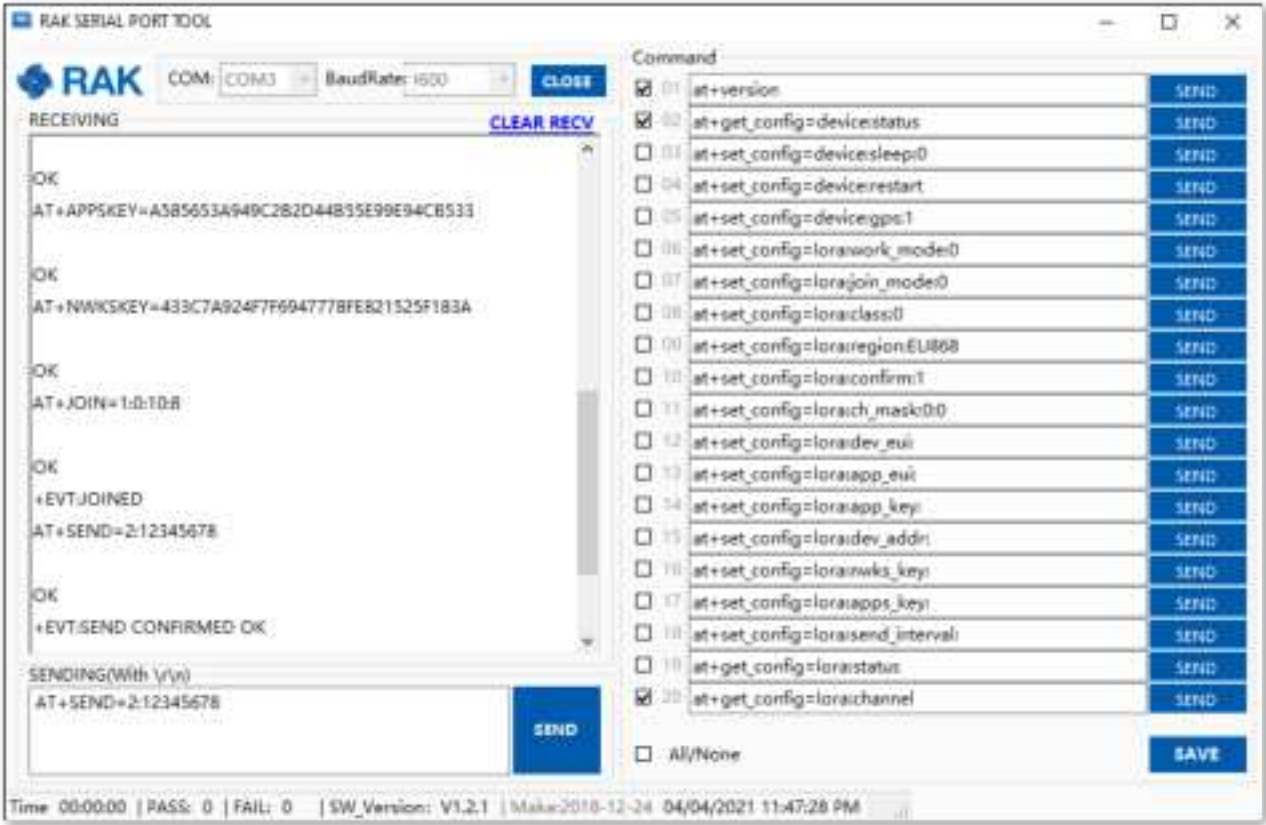

Figure 54: OTAA Test Sample Data Sent via RAK Serial Port Tool
3. At this step, you need to put a unique **End device ID** and **DevEUI**, as shown in **Figure 54**. Check if your module has a DevEUI on the sticker or QR that you can scan then use this as the device unique DevEUI. Optionally, you can add a more descriptive **End device name** and **End device description** about your device.